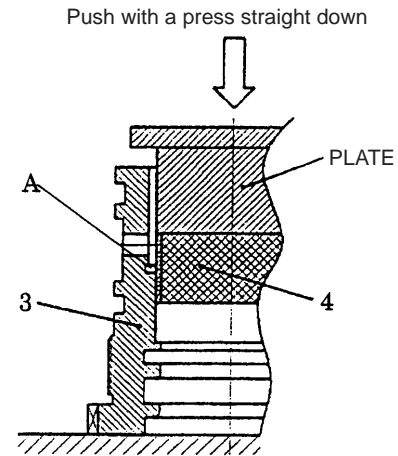

Fig. 32-46 Pressing in bushing
- (1) Press fit bushing (4) in rod cover (3) applying plate on the section. After press-fitting, check that the bushing is not projected from the end surface (A). (See Fig. 32-46)
- (2) Fit snap ring (5).
- (3) Fit backup ring (8) on U-ring groove.
- (4) Apply hydraulic oil on U-ring (7) and fit it on the U-ring groove.